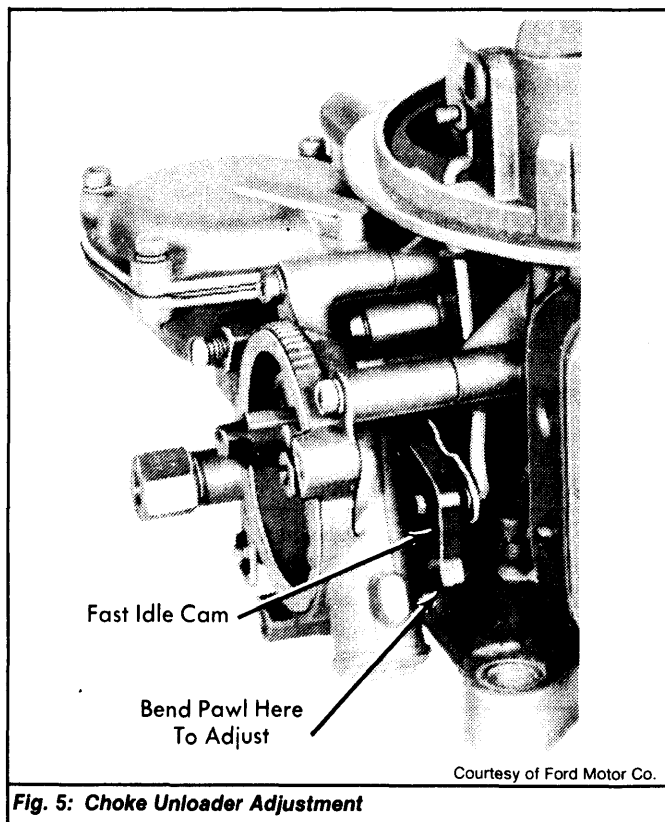

Fig. 5: Choke Unloader Adjustment
1) Hold throttle valves wide open. Apply light closing pressure on choke valve. See Fig. 5.